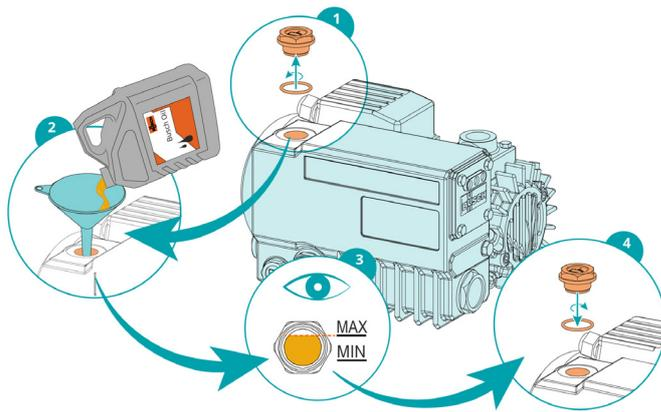

Fig. 31: Oil filling illustration (source Busch Instruction no. R5 KB KC 0010-0016 E no. 0870169526)
2. Follow the graphical instruction presented in the Fig. 31.